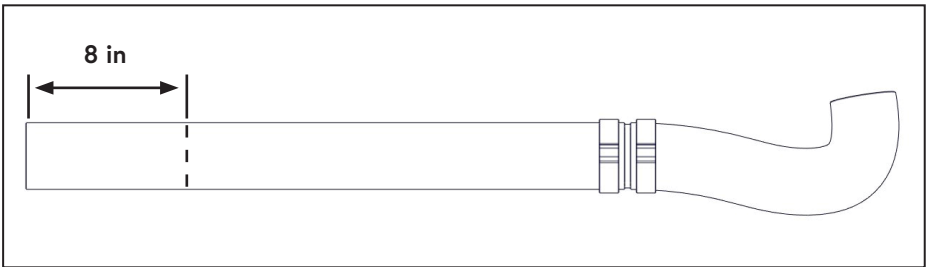

Figure 65 — Modify air intake hose
- Cut 8 in from the straight end of the intake hose assembly (Figure 65).